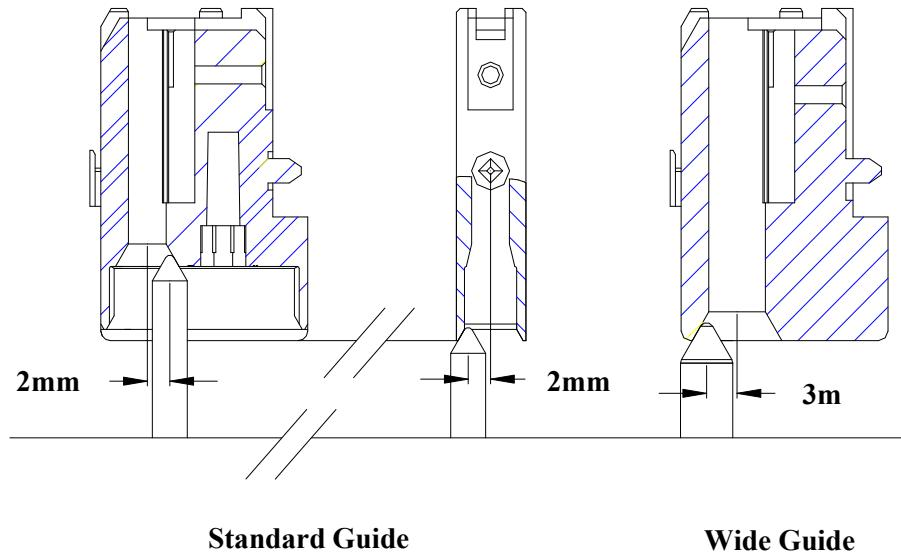

Figure 9: Standard and Wide Guide Gathering Ability
- 2.6.6 The XCede and XCede Plus guidance system is capable of gathering up to 2mm radial for the standard guide pin and 3 mm radial for the wide guide pin, see Figure 9.